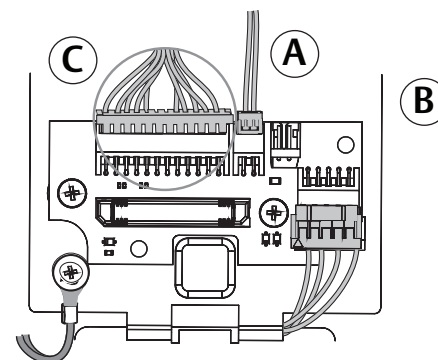
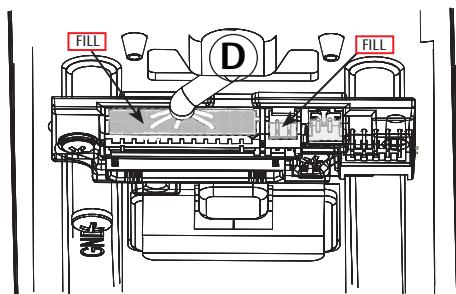

Figure 7-3B
Figure 7-3C
3. Secure the following connectors (Figure 7-3B, Figure 7-3C).
- Secure the mounting assembly while ensuring proper alignment of outside reader and fully tighten the (2) through-bolts on the inside of the door to secure the reader and plate to the door
C. Secure the 24-pincard reader connector. (Figure 7-3B, Figure 7-3C)
D. Ensure all openings on back of secured reader connector are covered completely with grease. (Figure 7-3C)